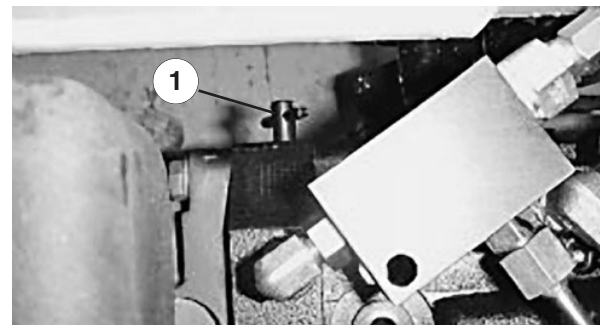

Figure 14
1. Reach under the traction unit and turn the bypass valve (Fig. 14) $\frac{1}{2}$ to 1 turn counterclockwise. Opening the valve opens an internal passage in the transmission, thereby bypassing transmission oil. Because fluid is bypassed, the traction unit can be moved without damaging the transmission.